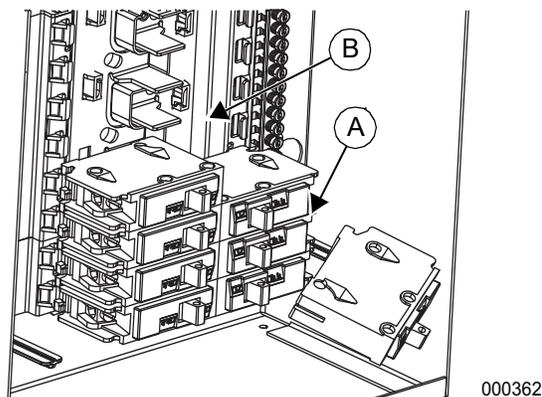

Figure 3-3. Install Breakers
2. Remove front panel assembly, and open door to expose breaker knockouts (B). Remove knockouts required for selected breaker installation.
- See **Figure 3-3**. Insert tab on each breaker (A) into the hook on the bus (B). Push the breaker into the bus until it snaps into place.